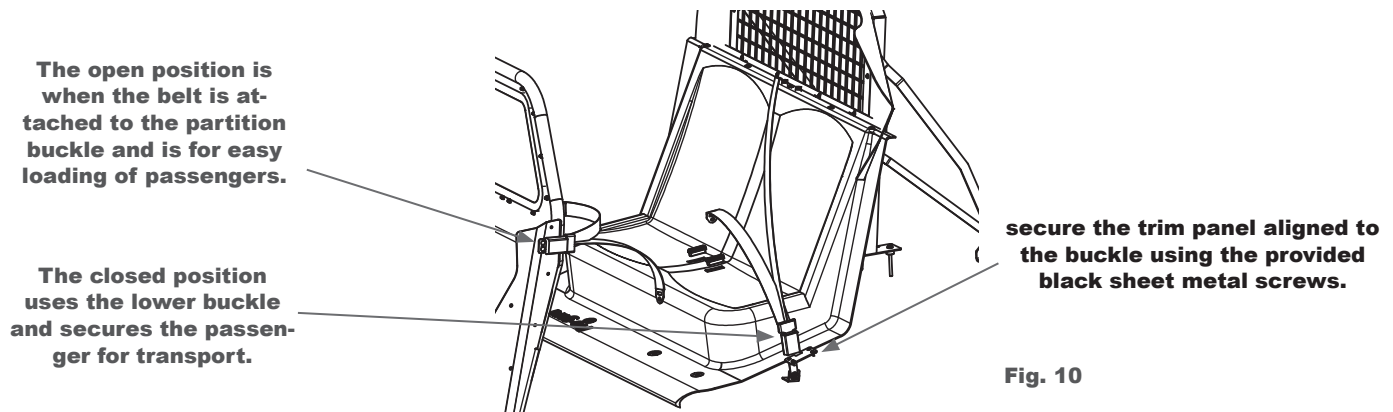

Fig. 10
F. Locate partition buckle on the partition drill two 1/4" holes one at each end of the slot opening, and attach with the provided fasteners. This allows the seat belt to be placed in the open position. The open seat belt position allows the user easy access while loading passengers in the back seats. The seat belt needs to be fastened in the closed position when transporting passengers by using the (3OSB109RP) lower buckle just below the C-pillar area. Bolt the small black trim panel (3OSB4715-11) in place next aligned with the seat belt as shown to fill the gap. (See Fig. 10)